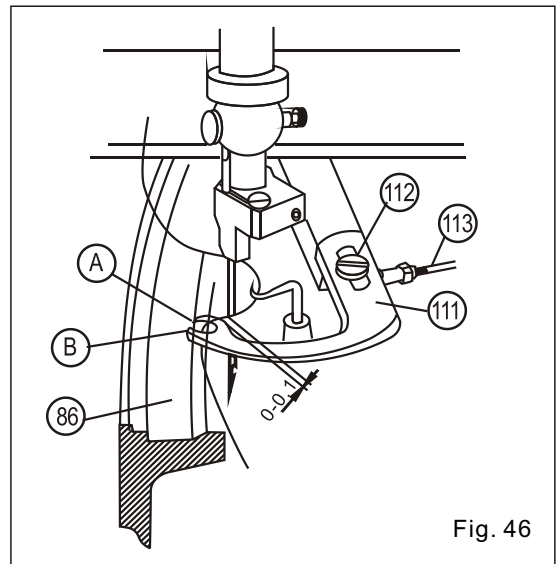

Fig. 46
(1) The lower thread feeding fork (No. 111 in Fig. 46) is used to put the thread to the needle. As indicated in Fig. 46, when the back of its top (A) cannot be bended when it is close to or in touch with the needle. Loosen the two screws (No. 112 in Fig. 46), and adjust the position of lower thread feeding mechanism by moving it on the stand, as indicated in Fig. 46.
(2) When the lower thread feeding fork moves rightward to the end of the cross arm, the space between the back of the lower thread feeding mechanism (A) and the thread disc (No. 86 in Fig. 46) shall be 1.5-2mm, as indicated in Fig. 47. Adjust the connecting rod (No. 113 in Fig. 46) between the two connecting parts to achieve accurate space.